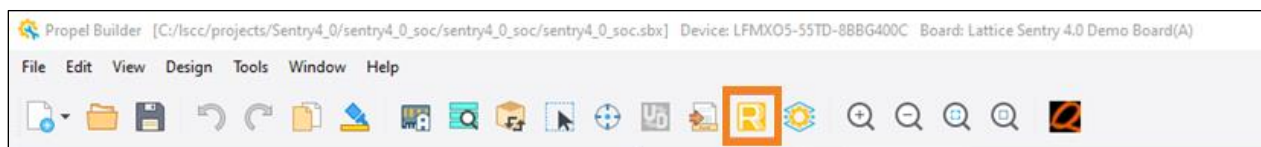

Figure 4.12. Lattice Radiant Software Icon
1. In Lattice Propel Builder, choose **Design -> Run Radiant** or click the Lattice Radiant software icon to open the SoC project in Lattice Radiant software (Figure 4.12).